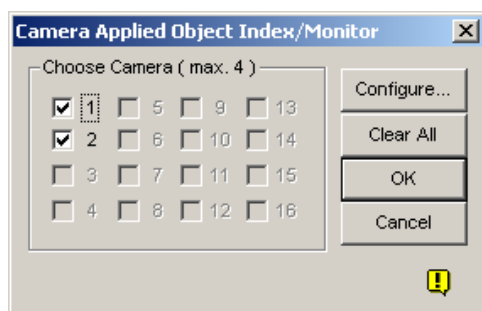

Figure 2-6 Camera Applied Object Index/Monitor
1. Click the Configure button, and then select Object Index/Monitor Setup to display the Camera Applied Object Index/Monitor window. (Refer to Object Index, figure 2-6.)